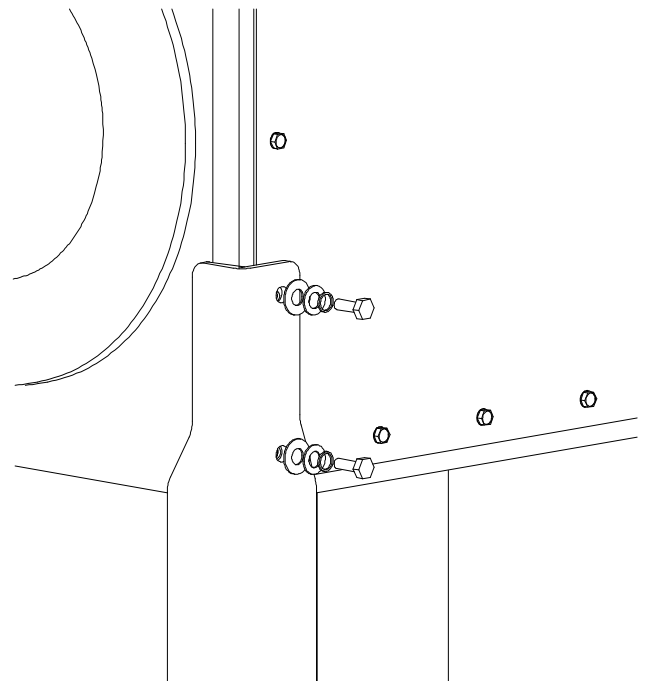

FIG. 2
3. Bolt on the four legs. The two lower bolts at each corner will be removed and used to attach each leg (see FIG. 2).